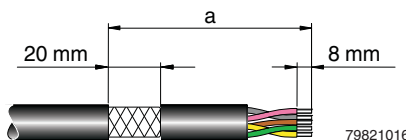

Figure 8-5 Connecting the shielded cable
- Strip approximately 20 mm off the outer sheath of the cable at the required distance from the end of the cable (a in Figure 8-5). The necessary distance a depends on the distance to the busbar.